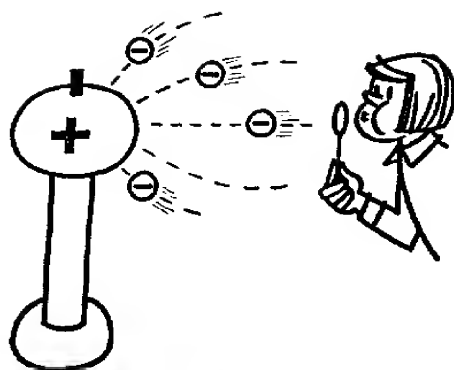

Fig. 57
When charged soap bubbles were blown towards the sphere of a Van de Graaff generator they tended to move along the dotted lines shown in Fig. 57. Such lines are sometimes referred to as *lines of electric force*. They indicate the direction in which the force acts on a charged particle at any point. *Can you draw a diagram showing the lines of gravitational force round the Earth? (12)*